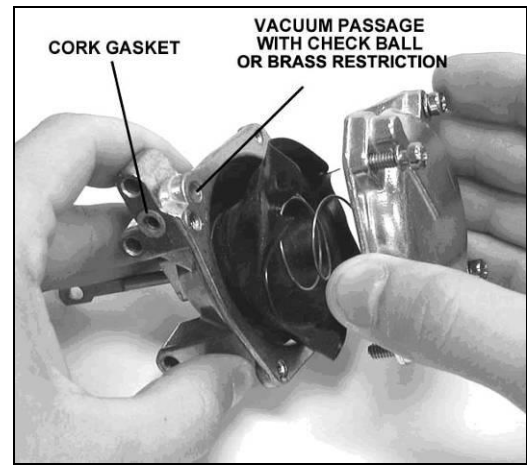

Figure 16
5. Gently remove the cover. Take care as not to tear the diaphragm or lose the check ball (Figure 16).